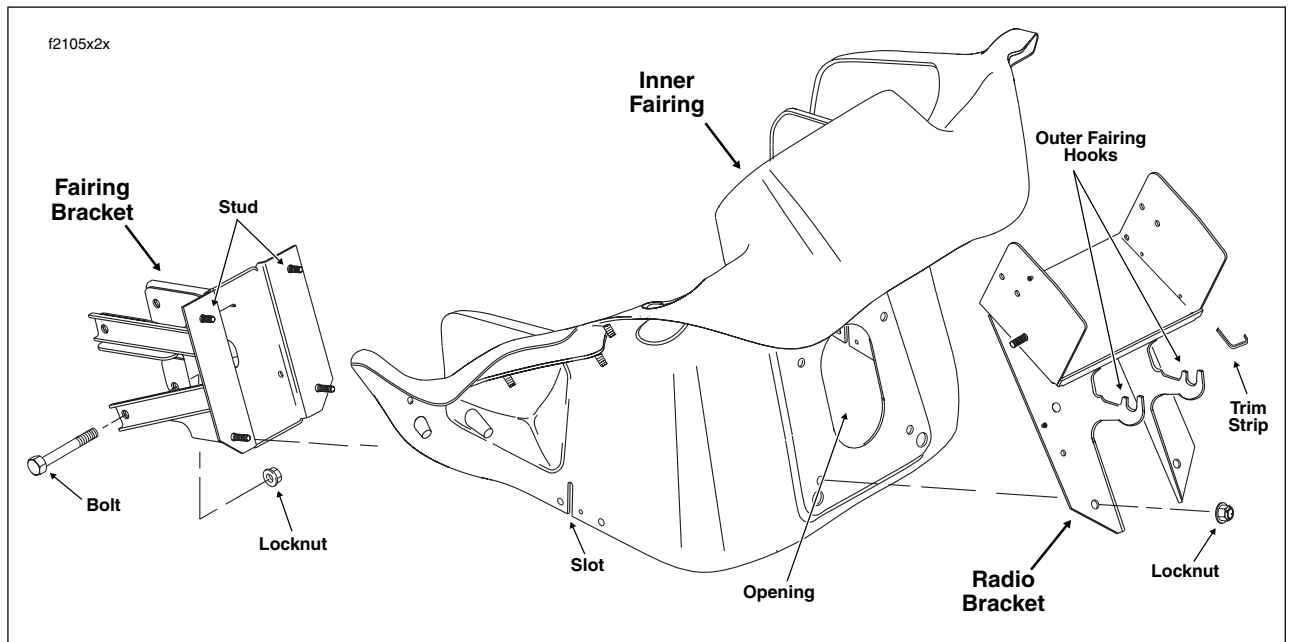

Figure 2-170. Inner Fairing Assembly
13. Remove four locknuts to release radio bracket and inner fairing from studs of fairing bracket. See Figure 2-170.
8. Place inner fairing over four fairing bracket studs while feeding end of harness bundle through opening beneath radio. See Figure 2-170. Verify that sides of inner fairing are positioned outboard of both fairing supports (on engine guards).